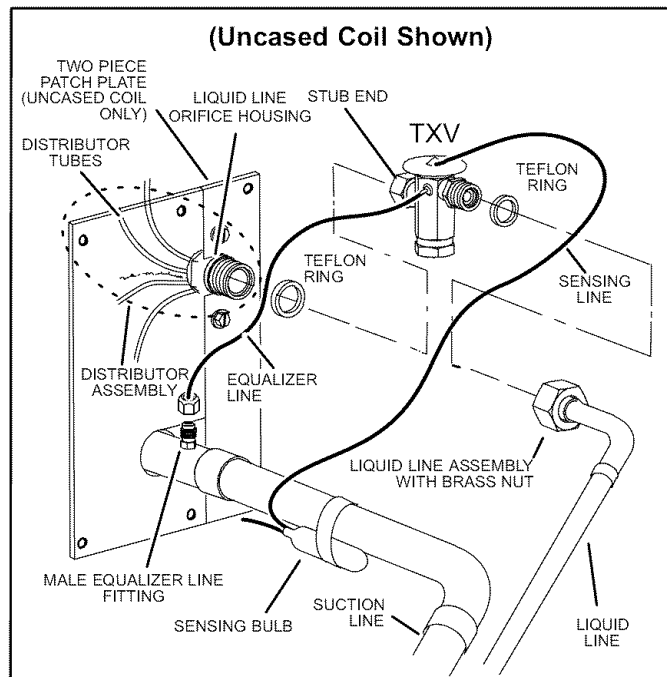

Figure 16. Typical TXV Removal
4. Remove the suction line sensing bulb as illustrated in figure 16.
7. Remove and discard TXV and the two Teflon rings as illustrated in figure 16.